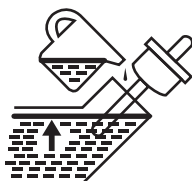

FIGURE 23: Engine Oil Level
5. Insert oil fill dipstick into oil fill hole but do not screw in (Figure 23).